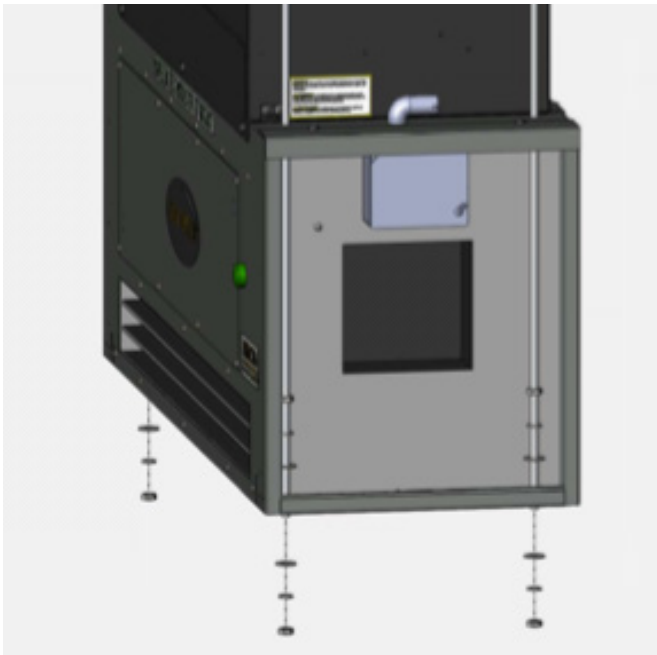

Figure 5
STEP 5: Using an approved lifting means (forklift, cable hoist, etc), safely lift the HRC06™ unit into position and secure to the threaded rods using the appropriate hardware (see Figure 5 on Page 7).